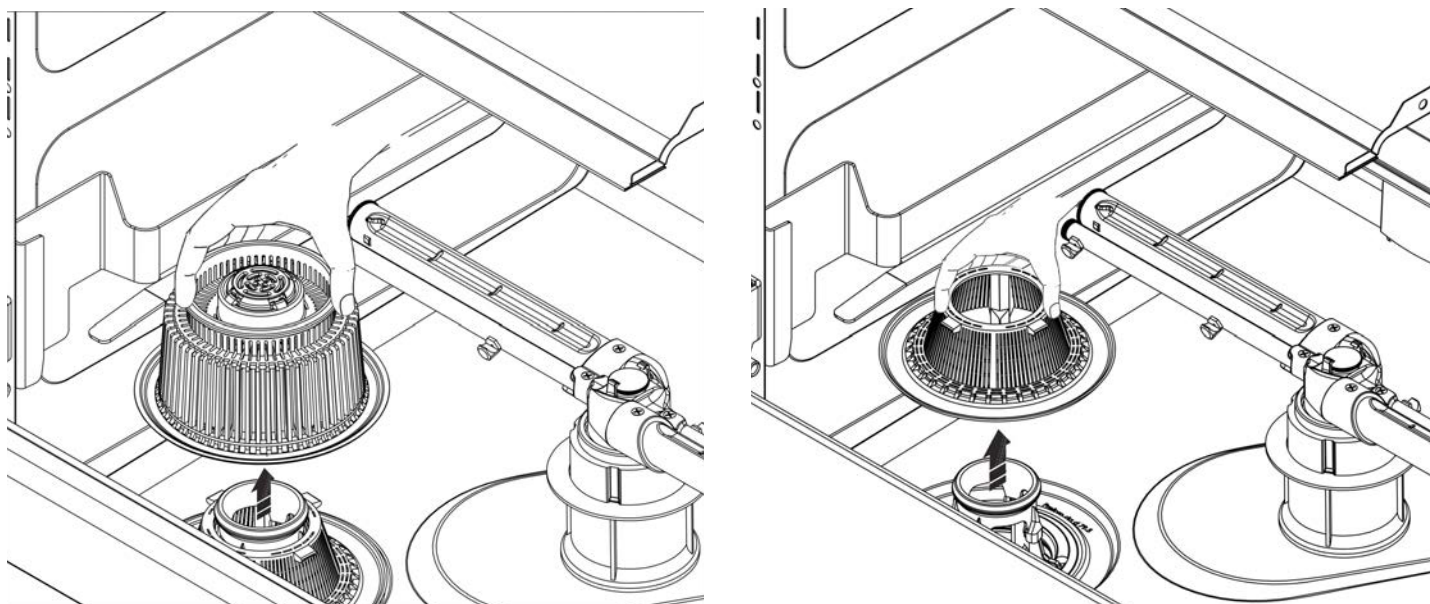

Fig. 13
- remove any food residue from the dishes before placing them in the dishwasher (fig. 13)